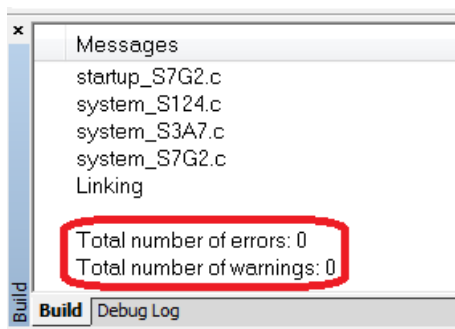

Figure 1.12 Error Free build
2. A successful build produces an output similar to Figure 1.12.